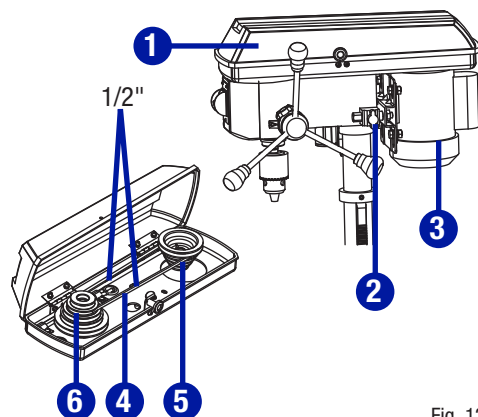

Fig. 12
**OPERATING ADJUSTMENTS****INSTALL THE BELT (Fig. 12)**
- Open the pulley and belt cover (1).
- Loosen the belt tension lock knobs (2) on both sides of the drill press.
- Slide the motor (3) as close to the drill press head as possible.
- Place a belt (4) on the motor pulley (5) and the spindle pulley (6) in the proper position for the desired speed.
- Pull the motor away from the drill press head until the belt is properly tensioned. Tighten the belt tension lock knobs (2).
The belt (4) should be tight enough to prevent slippage. Correct tension is set if the belt flexes about 1/2" (13 mm) when thumb pressure is applied at the midpoint of the belt between the pulleys (Fig. 12).